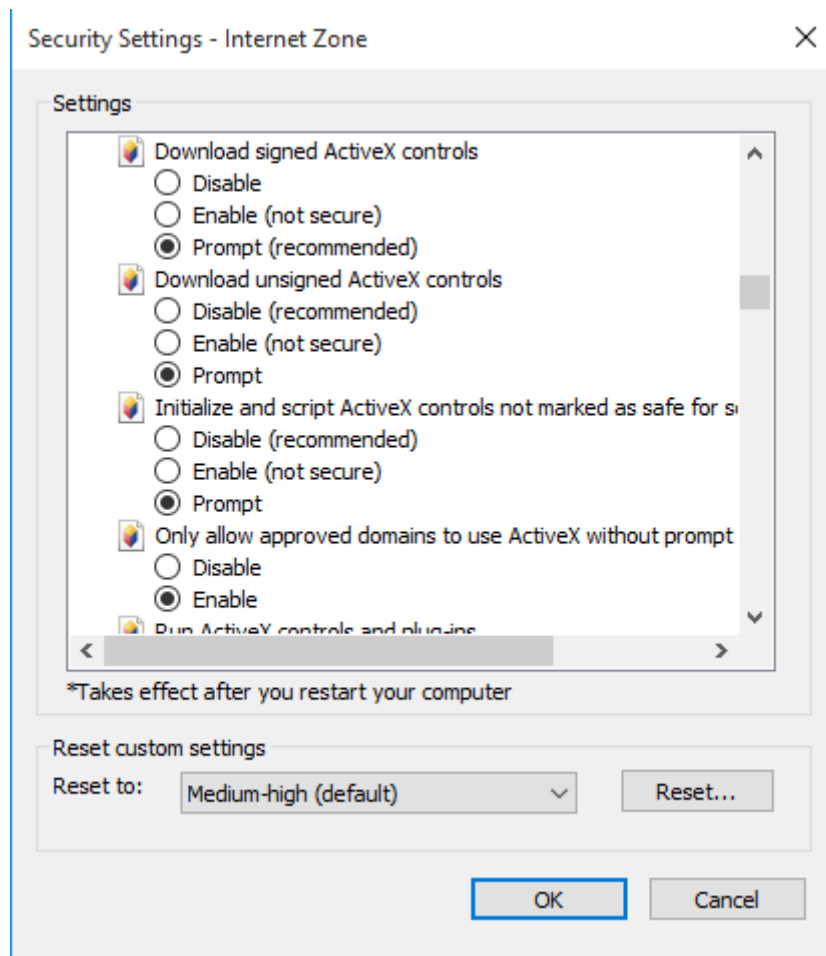

Figure 4- 1
1. Right-click on Internet option of the IE browser's Properties or click on the IE page tool, open Internet Properties / Options window, select the Security tab, click Custom Level parameter button, see Figure 4- 1.